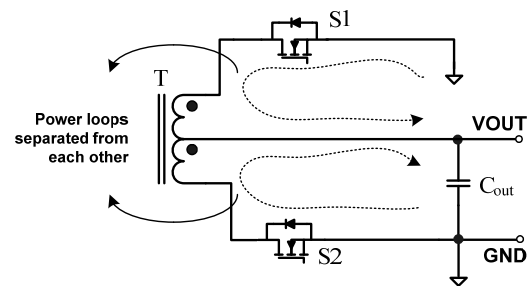

Figure 8: System Power Loop
- Keep the two channels' power loops separated to minimize their interaction, which may affect the voltage sensing of the IC (see Figure 8).